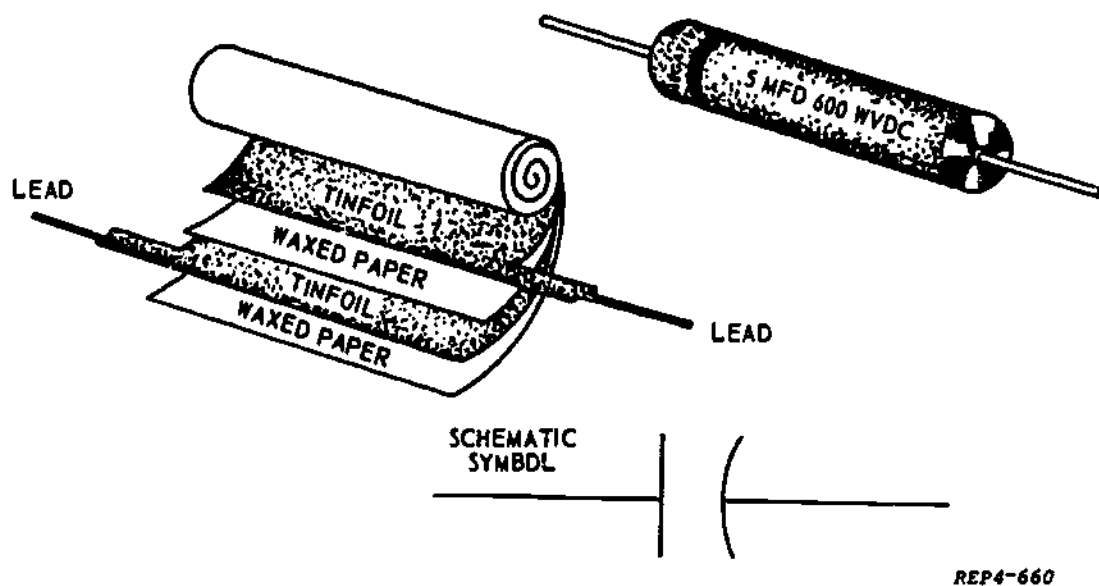

Figure 2-28. Paper Capacitor
b. Paper Capacitors. Paper capacitors are in common use because of their low cost and small size. The dielectric material is usually waxed paper which is a porous material; therefore, paper capacitors are seldom used above 600 volts. The plates are long flat strips of tin foil and the paper is placed between them as the dielectric. All three are rolled together into a cylinder, as illustrated in figure 2-28. When rolled in this fashion, one plate has two active surfaces. The active area for calculation purposes, therefore, is twice the area of one plate. The completed cylinder is usually placed in a metal or cardboard container and sealed with wax, or pitch, to keep out the moisture. The outside foil is normally connected to the ground side of the circuit in order to create an electrostatic shield around the capacitor. The outside foil connection is normally indicated by a single color band at one end of the capacitor or by the word NEGATIVE at one end of the capacitor. On some capacitors, both the color band and the word NEGATIVE are used.